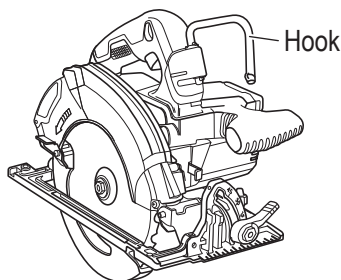

Fig. 17
- (1) Turn the hook away from the saw body to hang the saw from a rafter, joist or other elevated support. (**Fig. 17**)